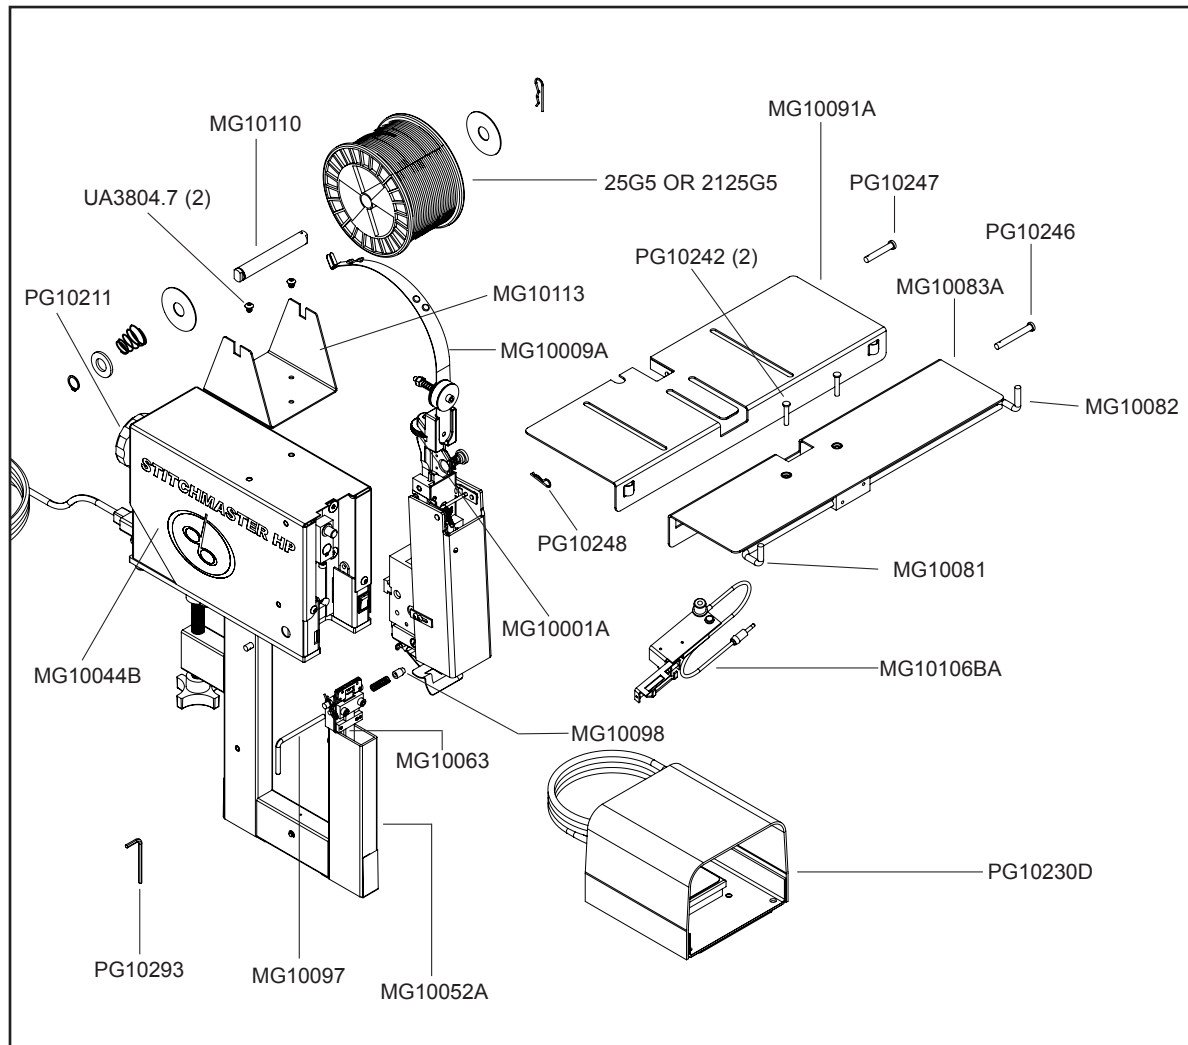

Figure 2
As you carefully unpack the machine, check to make sure all components were delivered and are in good working order. Use **Figure 2** in this manual for reference to the following pieces:
Assemble the components of the StitchMaster as needed. Use **Figure 2** for part number reference. The Wire Spool Cradle (MG10113) mounts with the two (2) screws (UA3804.7) on the top of the cover (MG10044B). Use the supplied 1/8" Hex Key Wrench (PG10293) to remove the screws and then secure the Cradle to the Cover. The Wire Spool (25G5 or 2125G5) comes assembled on the Spool Shaft (MG10110) which slips into the slots in the cradle. Pay attention to the payoff direction of the wire, see **Figure 2**, so that it matches the above drawing.